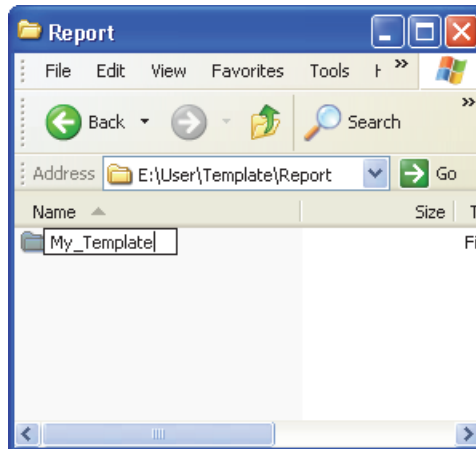

Figure 7-5 The path for the custom report files
4. Rename the \User\Template\Report\Complete\ folder, which you just copied, using a name of your choice (renamed to My_Template in the example shown in Figure 7-5 on page 188).